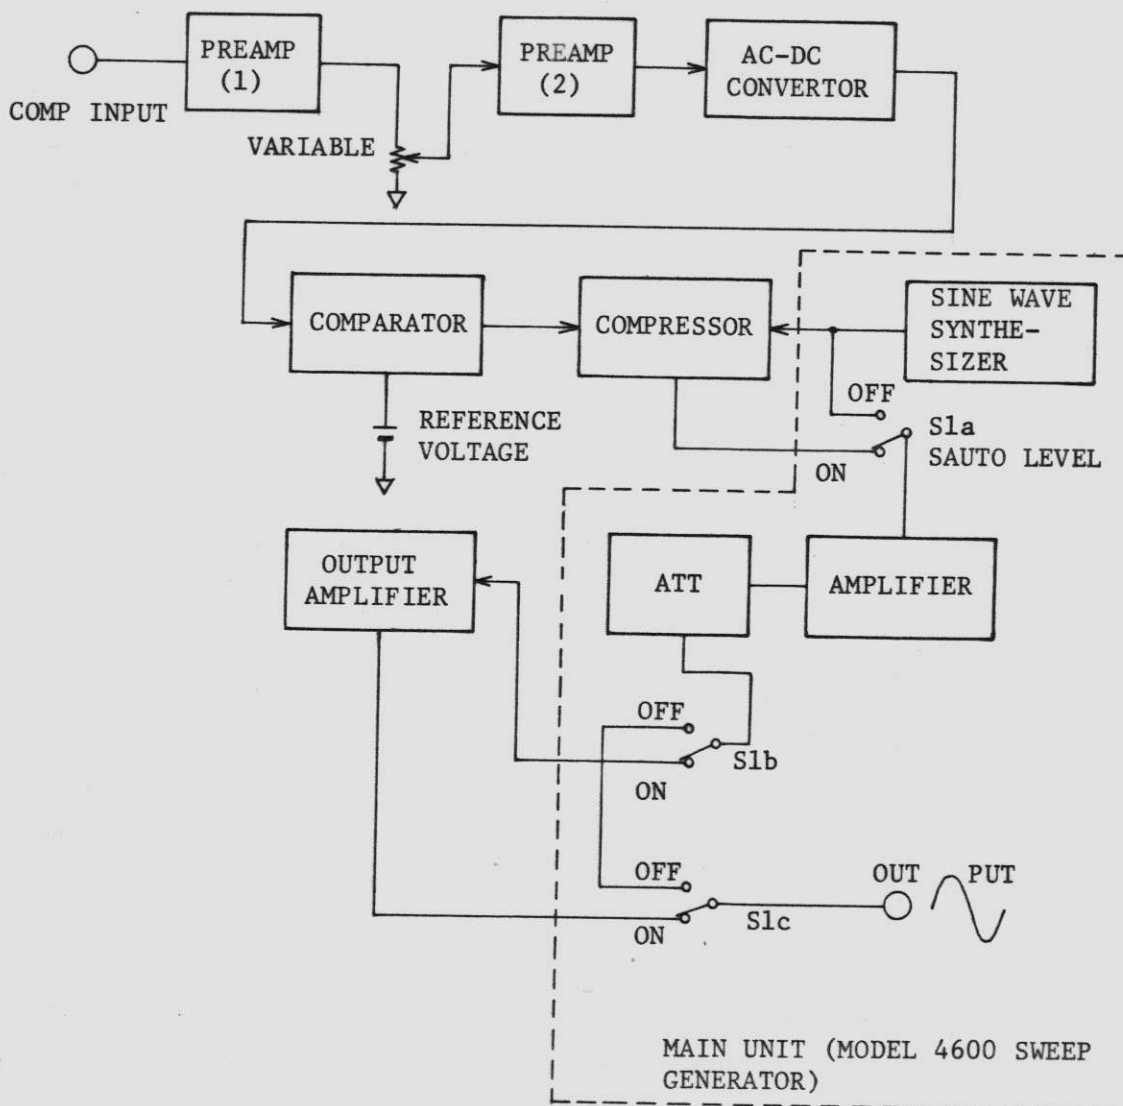

Figure 4-1
Model OP-4600 Auto Compressor consists of preamplifiers, AC-DC converter, comparator, compressor, output amplifier and other circuits as shown in Figure 4-1.
Referring to Figure 4-1, the input signal applied to the COMP INPUT terminal is amplified by preamplifiers (1) and (2), converted into a DC signal by the AC-DC converter, and then fed to the comparator. The comparator compares the input signal with the reference voltage signal and generates an error signal which is fed to the compressor circuit in order to make the input signal equal to the reference voltage signal.